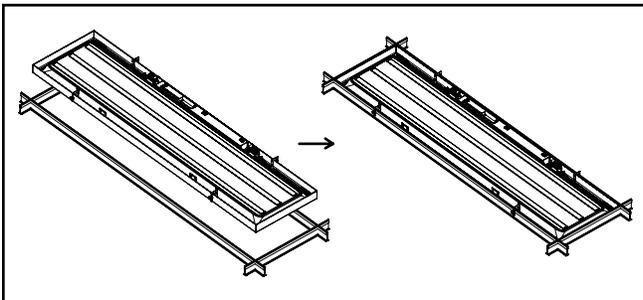

**Figure 10.**
6. Bend 4 earthquake clips as shown in figure 10. If desired or required by local code, drive a self-drilling screw (not provided) to connect the clips to the T-grid. See Fig.10